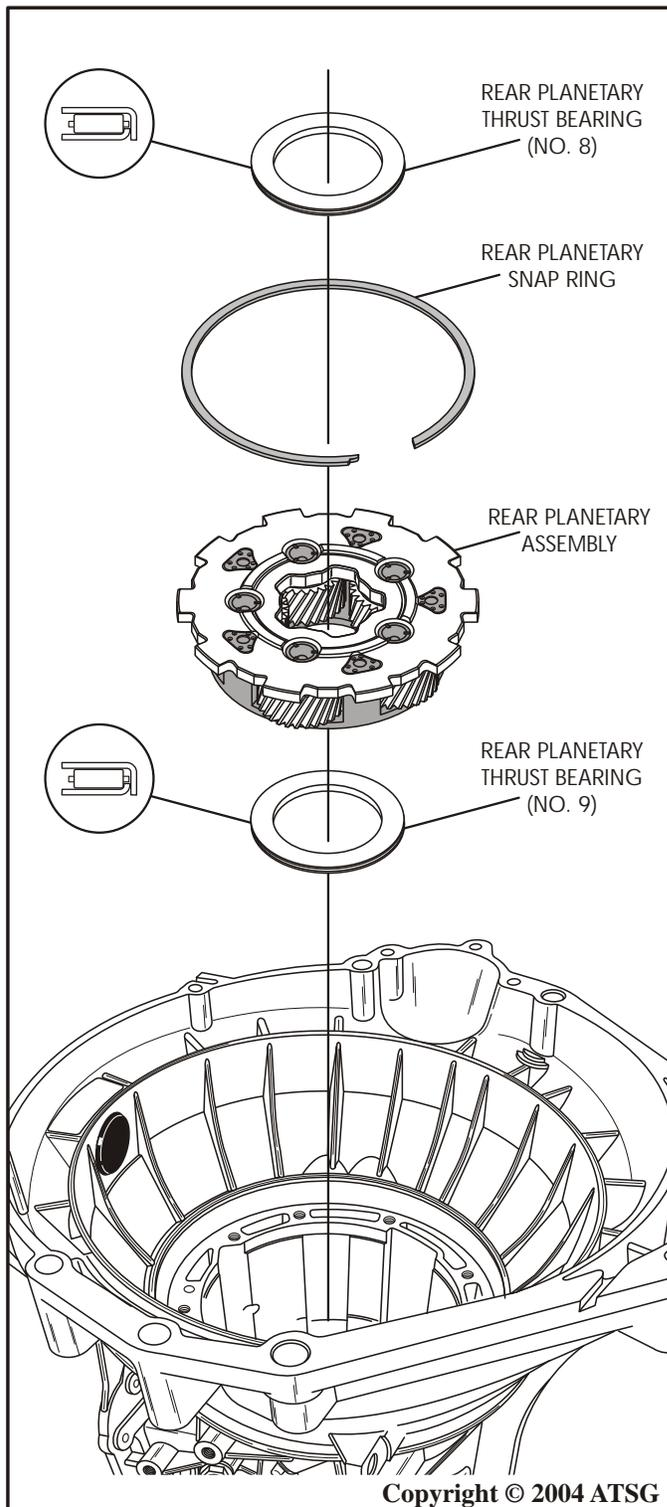

Figure 143
- 16. Install the rear planetary thrust bearing (No. 9) on top of rear ring, in the direction shown in Figure 143, and retain with small amount of Trans-Jel®.
- 17. Install the rear planetary carrier assembly, as shown in Figure 143, by rotating into position until fully seated.
- 18. Install the rear planetary carrier snap ring into groove in the reverse drum and ensure that it is fully seated (See Figure 143).
19. Install the rear planetary thrust bearing (No. 8) on top of the rear planetary carrier, in direction shown in Figure 143, and retain with a small amount of Trans-Jel®.